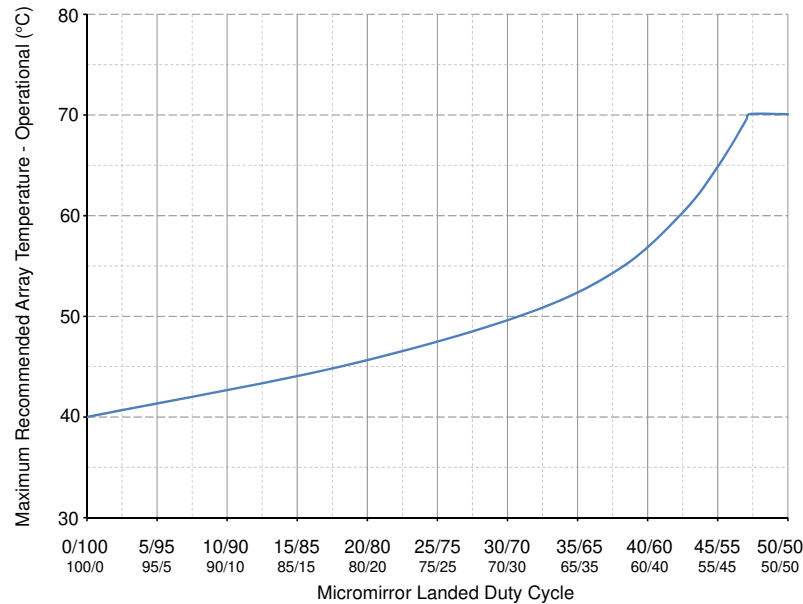
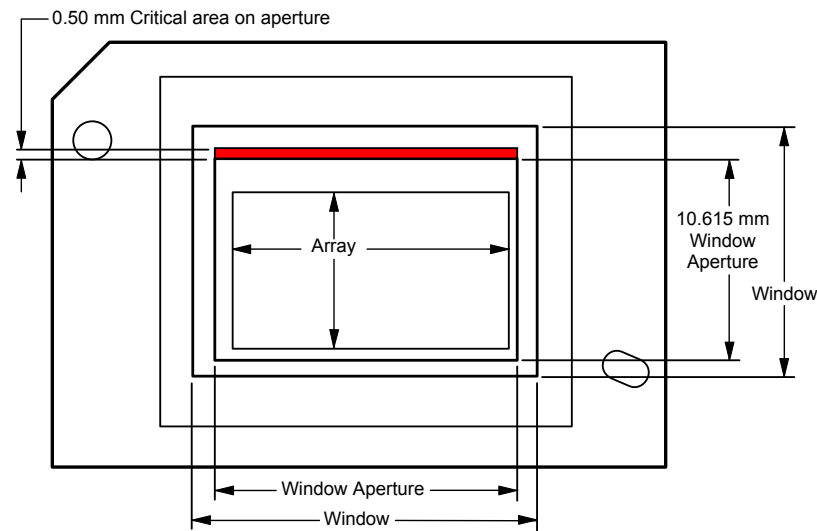

图 6-1. Maximum Recommended Array Temperature - Derating Curve
图 6-2. Illumination Overfill Diagram - Critical Area
- (12) Per Figure 6-1, the maximum operational array temperature should be de-rated based on the micromirror landed duty cycle that the DMD experiences in the end application. Refer to Micromirror Landed Duty Cycle for a definition of micromirror landed duty cycle.
- (13) Long-term is defined as the usable life of the device.
- (14) Short-term is the total cumulative time over the useful life of the device.
- (15) The average over time (including storage and operating) that the device is not in the elevated dew point temperature range.
- (16) Exposure to dew point temperatures in the elevated range during storage and operation should be limited to less than a total cumulative time of CTELR.
- (17) The active area of the DMD is surrounded by an aperture on the inside of the DMD window surface that masks structures of the DMD device assembly from normal view. The aperture is sized to anticipate several optical conditions. Overfill light illuminating the area outside the active array can scatter and create adverse effects to the performance of an end application using the DMD. The illumination optical system should be designed to minimize light flux incident outside the active array. Depending on the particular system's optical architecture and assembly tolerances, the amount of overfill light on the outside of the active array may cause system performance degradation.
- (18) Applies to the region in red in Figure 6-2.